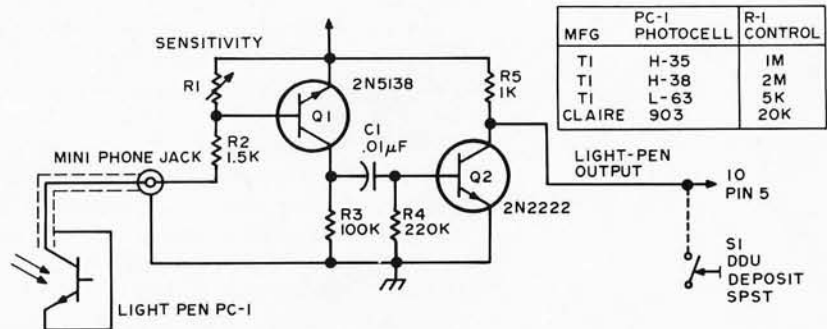

Figure 1: The simple version of the light pen can be constructed according to this schematic. All resistors 1/4 W.
Figure 1 illustrates the simple light pen circuit. With proper adjustment of the sensitivity control (and possibly the brightness control), the photocell in the tip of the light pen will sense the moment in time when a dot is written at the particular location of the light pen. At this instant, the photocell will conduct, biasing the PNP transistor which causes a short pulse to be conducted through capacitor C1 to the base of the NPN transistor Q2. If the pulse is greater than .6 V, this transistor will be driven into saturation, and the light pen output will fall to .3 V. This output line is connected to pin 5 of the oscilloscope graphics unit which writes a 1 or a 0 bit (dot or no dot) at precisely the instant that the dot position touched by the pen was addressed.
As is shown in the table accompanying figure 1, several different types of photocells are suitable for use in the light pen. The Texas Instrument (TI) type H-35 or H-38 is a very small device with a built in lens. These were originally designed for use in punched tape and card readers, thus the small size. Their size, sensitivity, and restricted field of view make them ideal for this application. The high impedance of these devices, however, makes them somewhat slow for this application, particularly at low brightness levels. The slow response time limits their use at the faster scan rates, and complicates the smearing mentioned earlier. Another device, the L-63 type which is available from Radio Shack (276-140 infrared detector), was found to be considerably faster. Being a much larger device, however, it has a larger field of view, and much of its speed advantage is lost to optical smearing. Models of both photocell types were built and tested by me, with only slight preference for the H-35. With some careful masking, and possibly the addition of a small, short focal length lens (e.g., Edmund Scientific number 12050 cylinder lens, or a small drop of clear epoxy), this photocell will probably perform better than the H-35 for this application. The Claire types 903 and 903-L were tried with only fair results.
If you are using the simple circuit of figure 1, the parts can be assembled on a small turret terminal board available at most electronic supply houses. This assembly is shown in photo 6. The circuit of figure 3 can be assembled in the same manner with the addition of a 16 pin DIP socket. R4, R5, C1 and C2 should be mounted in such a manner that they can be changed easily (Cambion 601-1512 component clips are useful here).